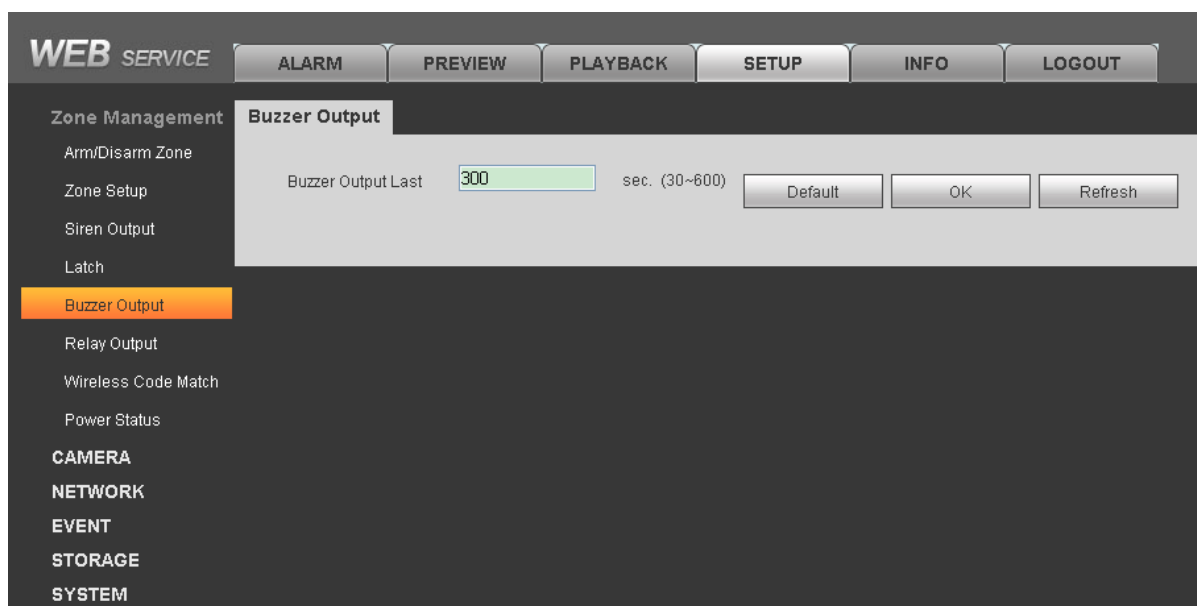

Figure 4- 10
Step 1. Select SETUP>Zone Management>Buzzer Output. See Figure 4- 10.